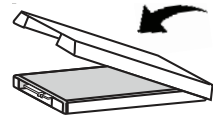

Figure 7. Press down on the cover to secure it.
- Replace the cover and secure it by pressing down firmly so that the tabs snap back into place (see Figure 7).